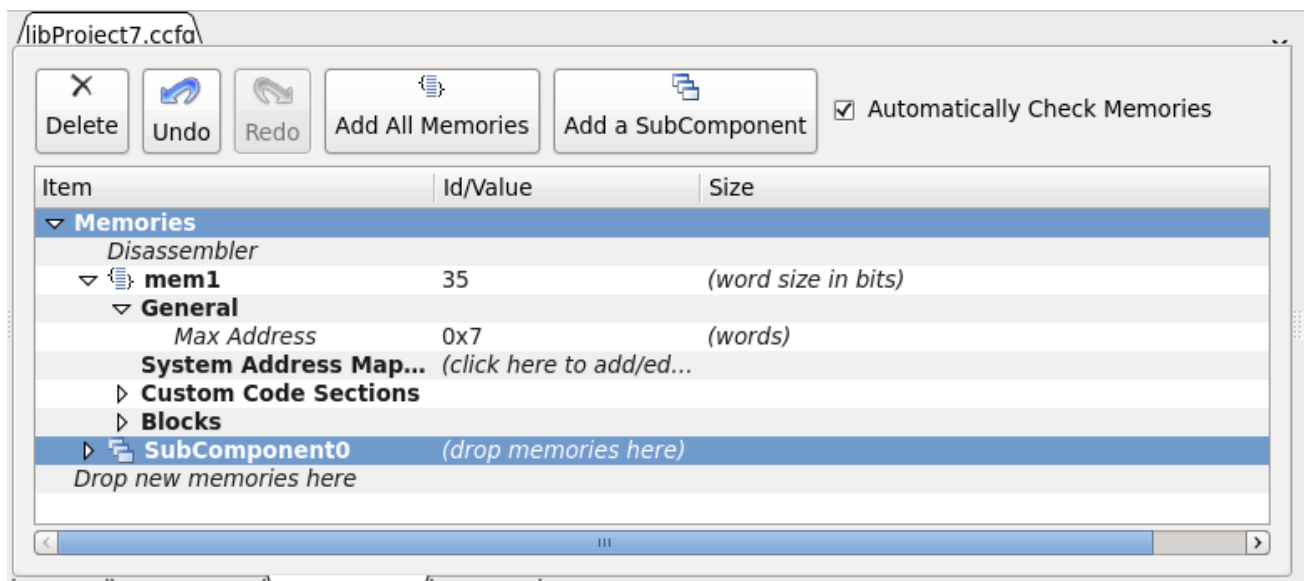

Figure 4-45 Subcomponent Views in Memories Page
1. Click the **Add a Subcomponent** button. A subcomponent row is added to the *Memories* list as shown in Figure 4-45.